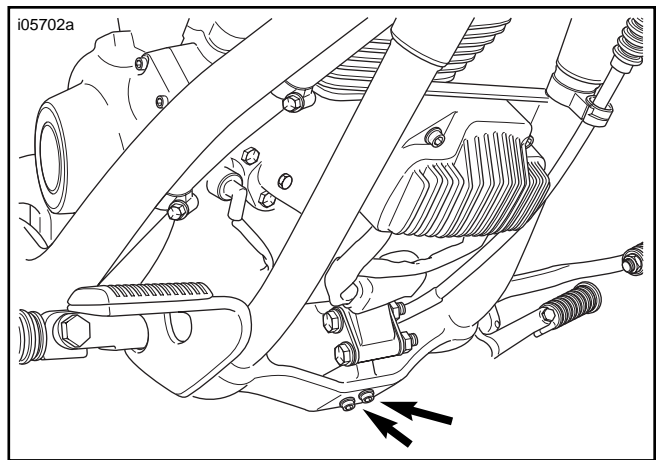

Figure 7. Remove Engine Isolator Bolts
- 25. See Figure 7. Remove and discard the two bolts, lock-washers and flat washers from the front engine isolator.